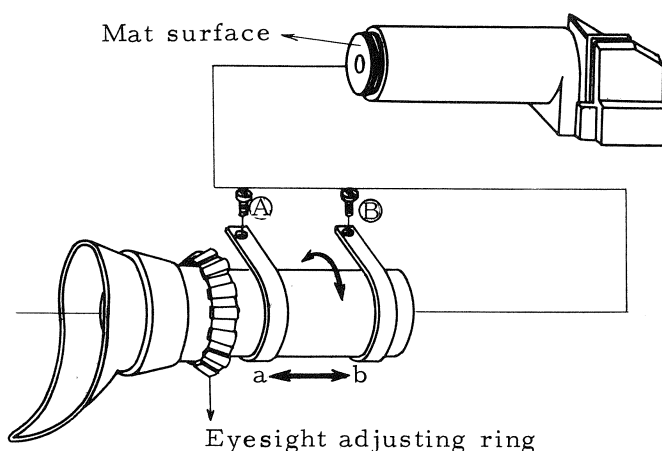

Fig. 21
1. Turn the eyesight adjusting ring of the eyepiece and focus on the mat surface. (Fig. 21)
3. If the visibility is out of focus, loosen screws (A) and (B), move the tube in the direction of arrows a or b, and make adjustments so that the mask can be seen with the same visibility as the mat surface. (Fig. 21)
4. If the mask should be slanted when compared with the chart, loosen screws (A) and (B) shown in Fig. 21 and adjust by turning in the direction of arrows c or d.